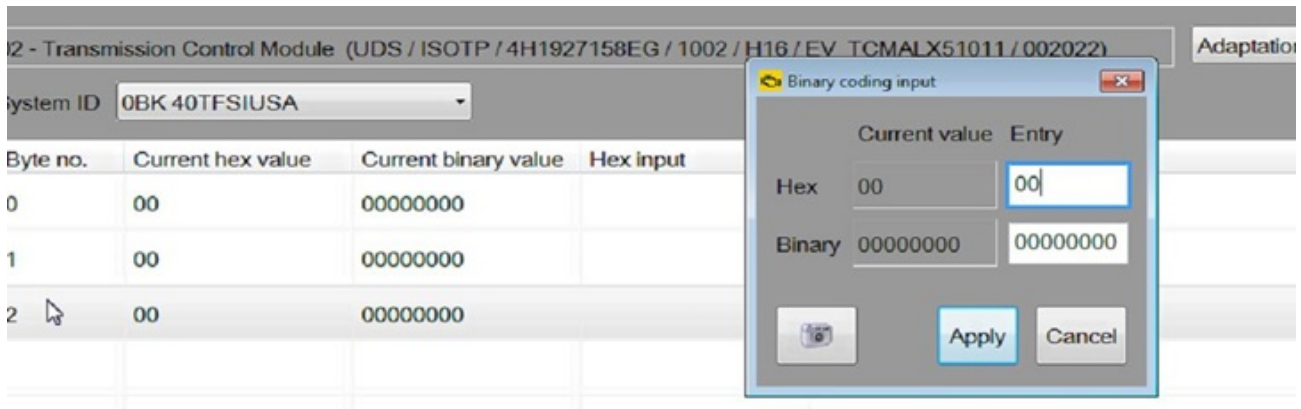

Figure 5. Binary coding input pop-up menu
8. The binary coding screen appears. Select the row for Byte no. 2 to open the **Binary coding input** pop-up menu (Figure 5).